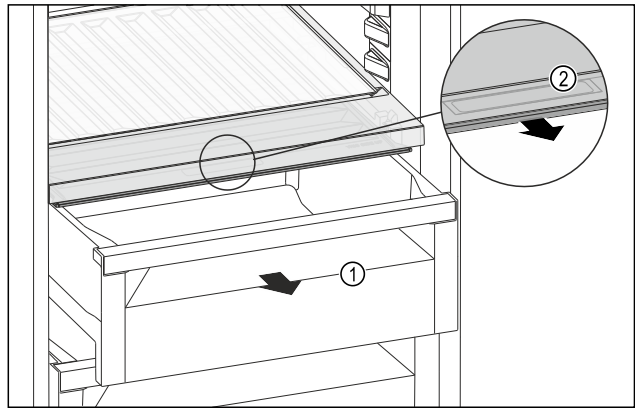

Fig. 172
- ▶ Pull out the drawer *Fig. 172 (1)*.
- ▶ Grasp the recessed grip *Fig. 172 (2)* on the compartment lid and pull the compartment lid forwards at the same time.